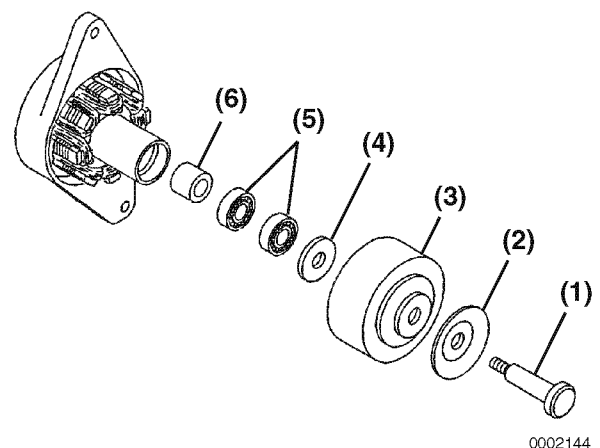

Figure 11-27
4. Reinstall the front bearings (**Figure 11-27, (5)**) and spacer (**Figure 11-27, (6)**).
5. Reinstall the flat washer (**Figure 11-27, (4)**), flywheel (**Figure 11-27, (3)**), pulley half (**Figure 11-27, (2)**), and through bolt (**Figure 11-27, (1)**).